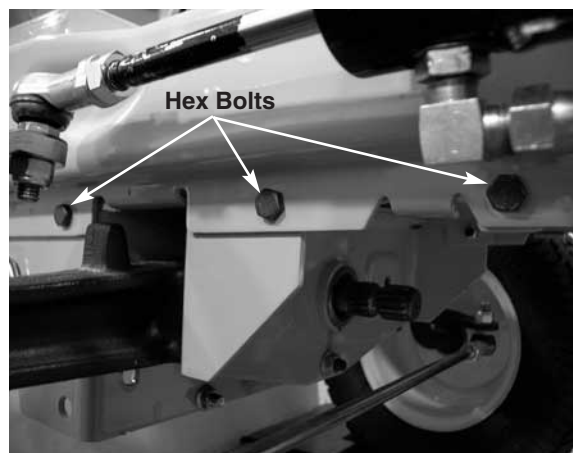

FIGURE 11.
27. Remove all six of the hex bolts and lock nuts from the engine mounting plate using a 1/2" socket and a 1/2" wrench. See figure 11.